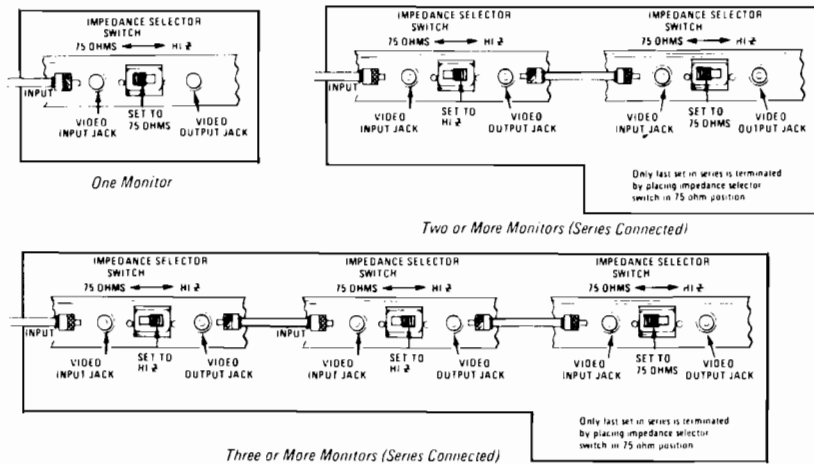

Figure 9. Impedance Switch Arrangement
**VIDEO INPUT Z SWITCH (ON MODELS DESIGNED FOR SERIES INSTALLATION) (Figure 9)**